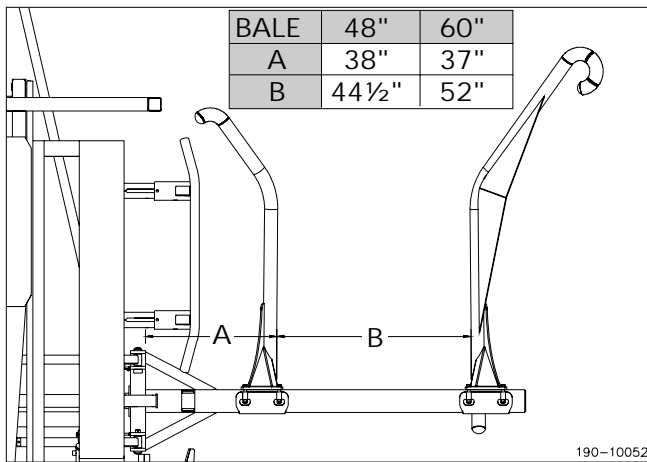

Figure 12
- 1) Adjust the opening and position of the loading arms according to recommendations (Figure 12). The dimensions given are to be used as a guide only since they may vary according to the bale size, weight and degree of softness.